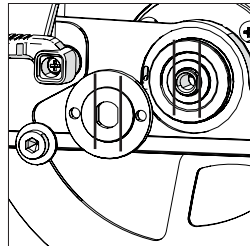

Fig. 7
**Note:** The outer drive flange has a specially machined bore which incorporates two opposed 'flats' (Fig. 7) These 'flats' engage with two complimentary 'flats' machined into the machines arbor shaft.